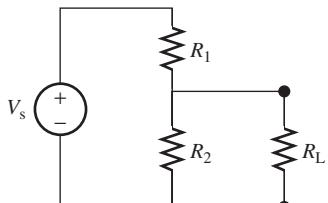

FIGURE P3.57 Circuit for Problem 3.57.
- 3.57** (A) Find the Thévenin/Norton equivalents for Figure P3.57.